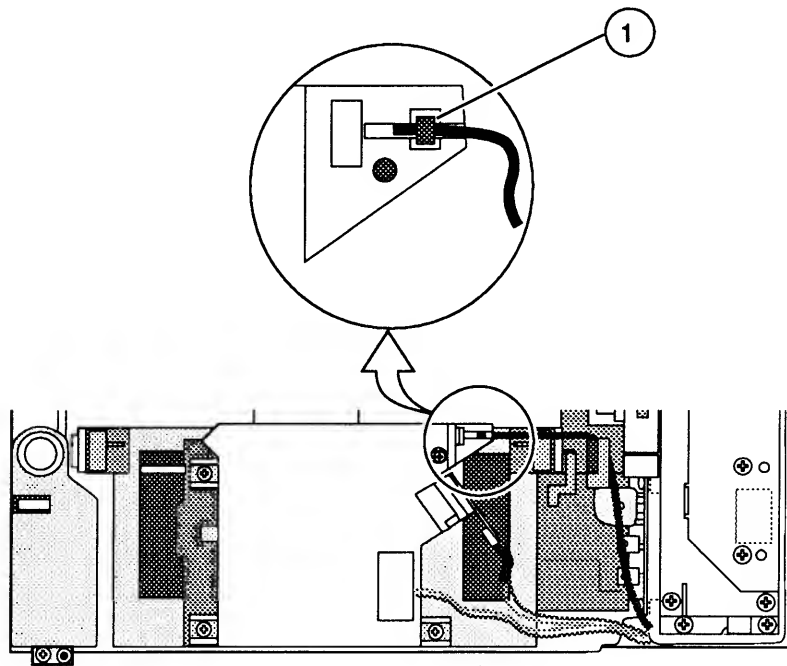

FIGURE 30
4. Place the metal "doughnut" (Figure 30, #1) on the optical fiber in its slot in the laser/scanner assembly.